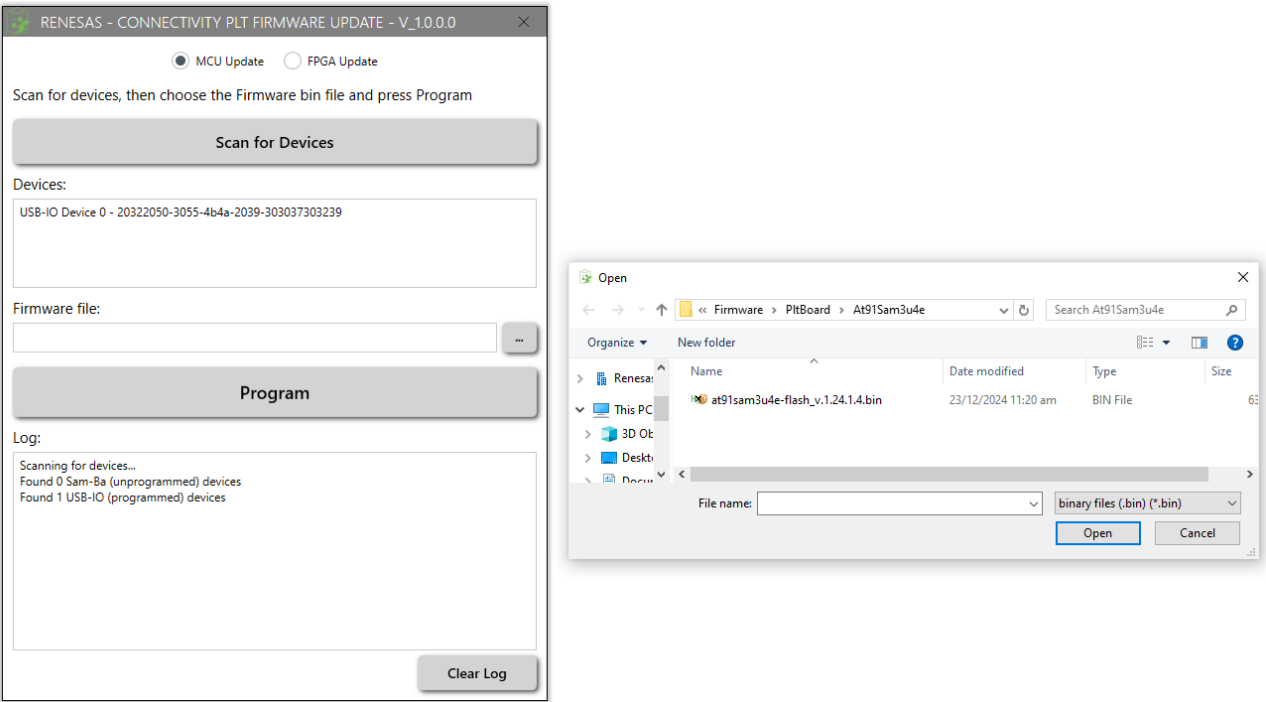

Figure 133. Firmware update file browse
3. Next specify the **Firmware file**, click the browse button (three dots), and select the appropriate file to flash, see Figure 133.